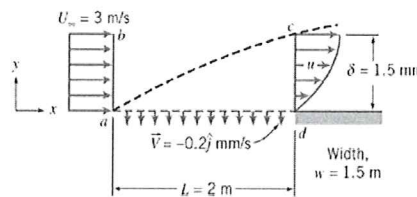

Figure 2
- Consider steady incompressible flow of air in a boundary layer on the length of the porous plate as shown in figure 2. Assume that the boundary layer at the downstream end of the surface has an approximate velocity profile (i.e. at section cd) of: $\frac{u}{U_\infty} = 2\left(\frac{y}{\delta}\right) - \left(\frac{y}{\delta}\right)^2$.